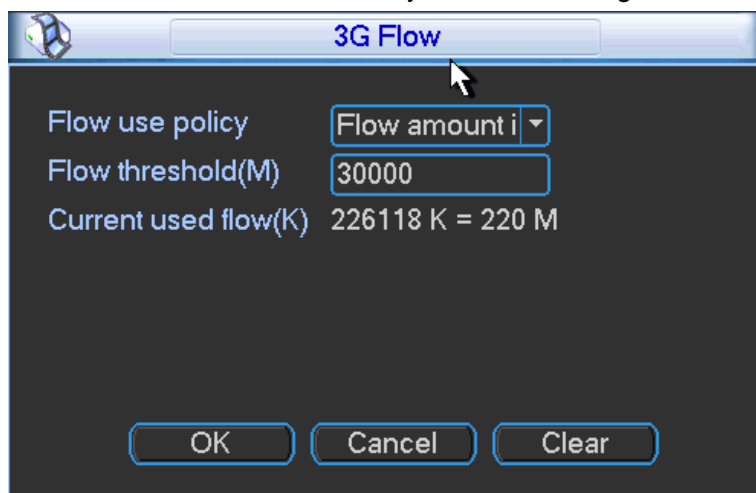

Figure 4-24
- 3G flow control: It is to show the 3G flow you used. See Figure 4-24.